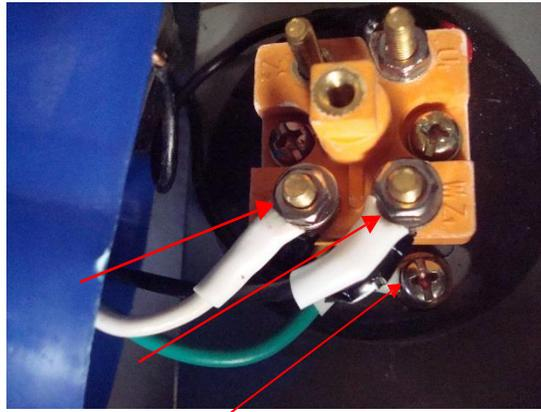

Figure 3-90
- 9) Connect the black and white wires to either of the lug nut terminals and connect the green ground wire to the Phillips screw terminal (Figure 3-90).